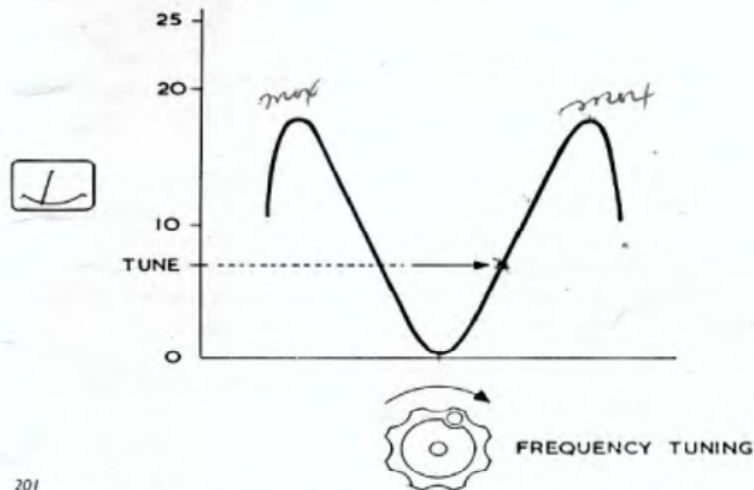

Fig. 2.2 Tuning Characteristic.
- (3) Slowly tune through the input signal. It will be found that two maxima are indicated by the meter - one below and one above the carrier frequency. These maxima are separated by a central point of minimum response at which the local oscillator of the Deviation Meter coincides in frequency with the carrier of the source under test. See Fig. 2.2.